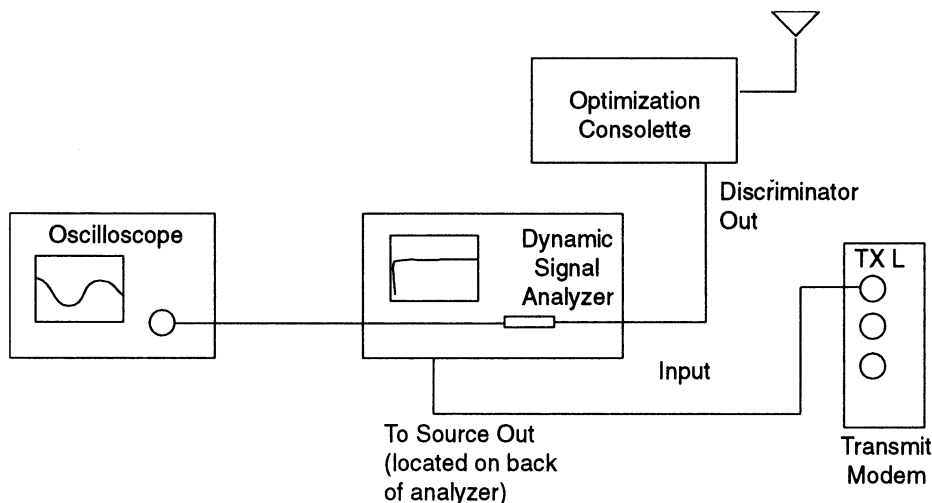

Figure 6. Mod Comp Equipment Setup for Systems With a Functional Audio Distribution Network
- Step 1. Connect the Source Out port on the back of DSA to the TX L jack of the audio transmit modem for the channel and site under test. Refer to Figure 6.